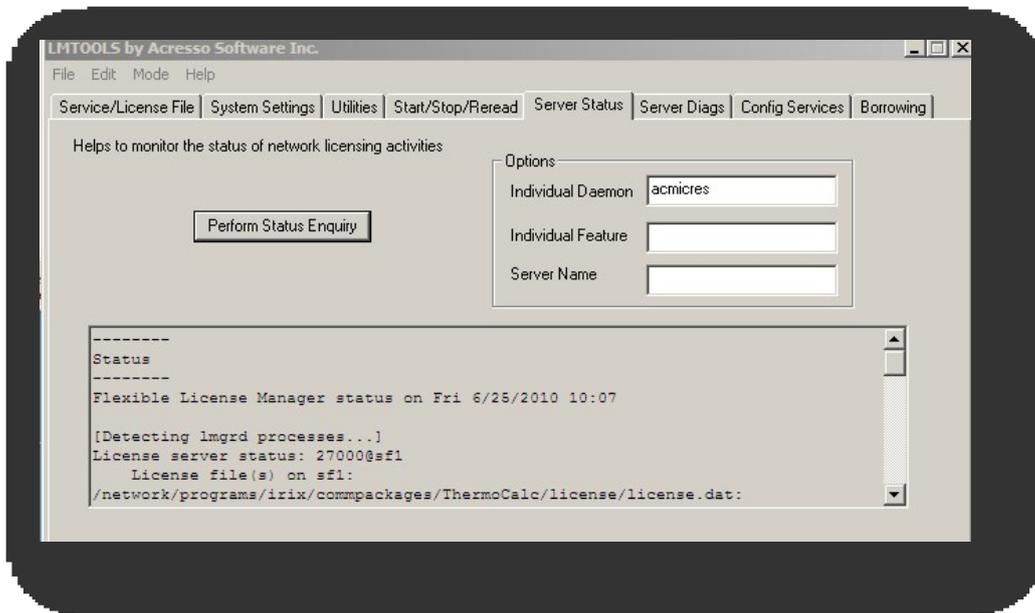

**Figure 3.8** The vendor path operations, Utilities ’
- **Utilities:** the utilities menu, fig 3.8, provides a valuable tool for both the license server and also for hooking the clients to the license server.
(educational version), “MICRESS\_TQ” in combination with TC-TQ (for TQ-coupled versions) and “MICRESS\_Stress” in case the elastic module is included. The different paths to various license files (see also “utilities” menu in fig 3.8) are scanned for valid licenses for this particular feature. Availability of a valid license for the feature may thus be checked. All input is case sensitive. A typical output is shown in fig 3.10